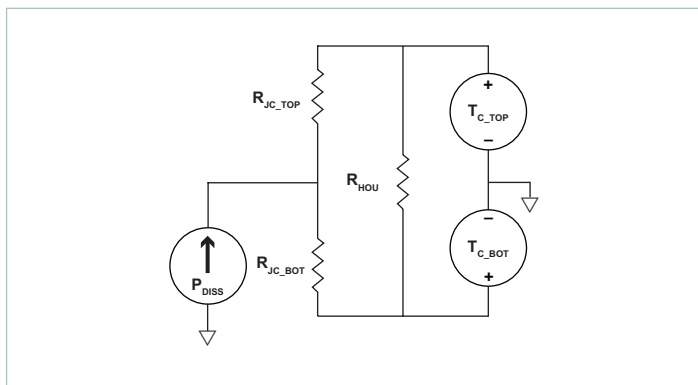
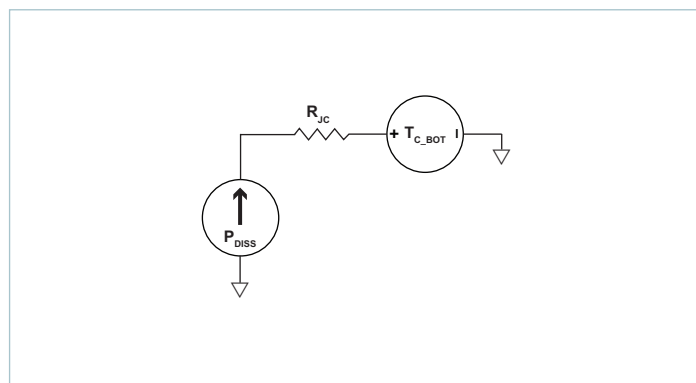

Figure 22 — Double sided cooling VIA thermal model
Figure 23 — Single-sided cooling VIA thermal model
The VIA™ package provides effective conduction cooling from either of the two module surfaces. Heat may be removed from the top surface, the bottom surface or both. The extent to which these two surfaces are cooled is a key component for determining the maximum power that can be processed by a VIA, as can be seen from specified thermal operating area in Figure 1. Since the VIA has a maximum internal temperature rating, it is necessary to estimate this internal temperature based on a system-level thermal solution. To this purpose, it is helpful to simplify the thermal solution into a roughly equivalent circuit where power dissipation is modeled as a current source, isothermal surface temperatures are represented as voltage sources and the thermal resistances are represented as resistors. Figure 22 shows the “thermal circuit” for the VIA module.
- Single side cooling: the model of Figure 22 can be simplified by calculating the parallel resistor network and using one simple thermal resistance number and the internal power dissipation curves; an example for bottom side cooling only is shown in Figure 23.